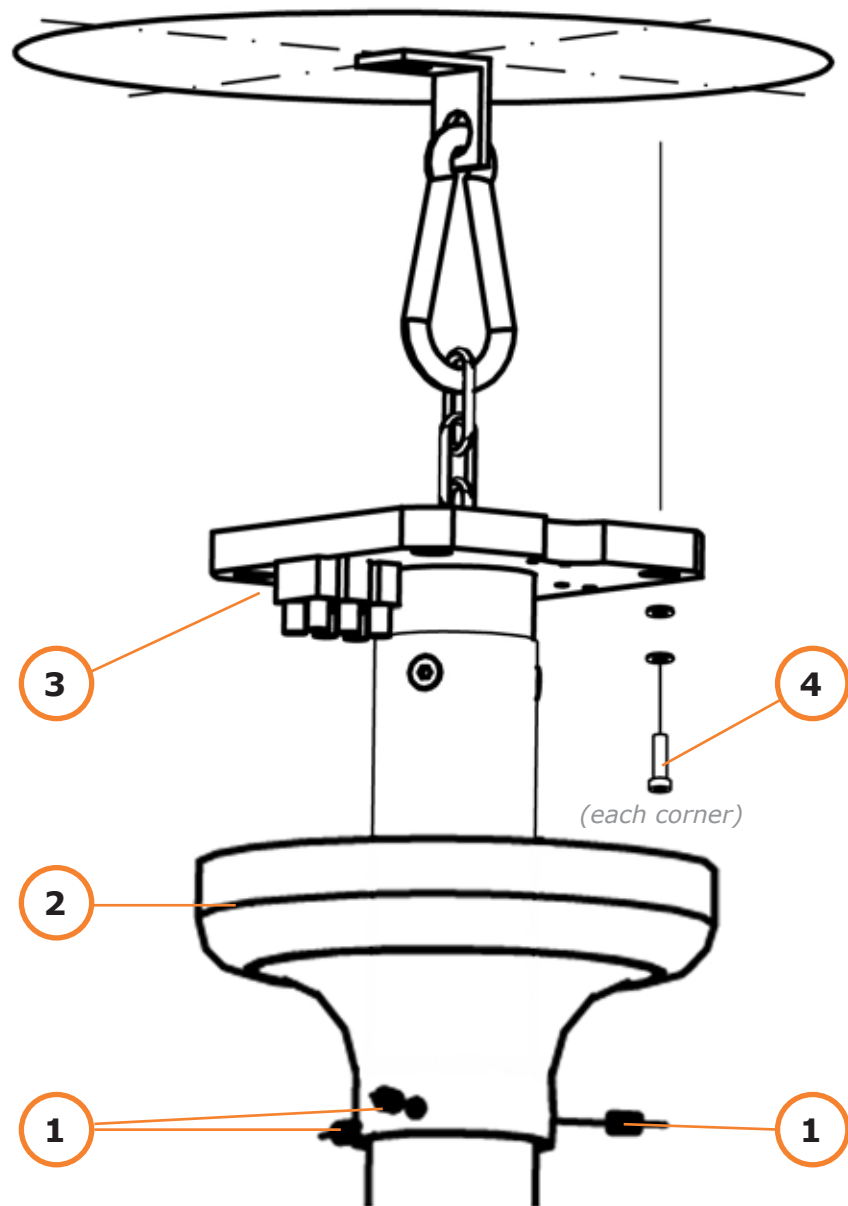
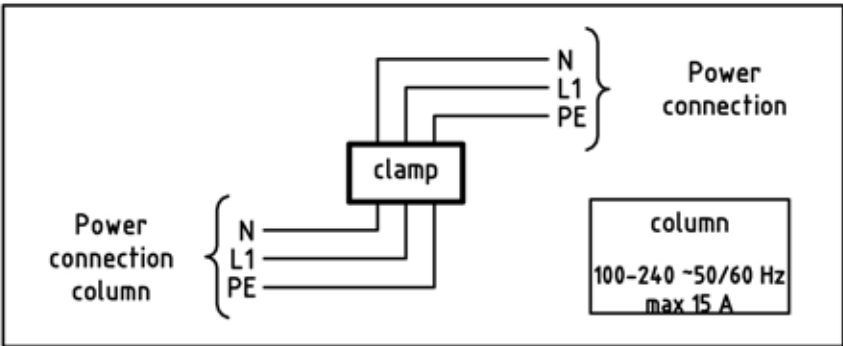

Fig. 15
Fig. 16
- 6.2.1 Loosen the three threaded pins (1/Fig. 15) of the canopy flange cover (2/Fig. 15).
- 6.2.3 Fix the ceiling column to the ceiling using the installation hardware (4/Fig. 15) specified by the structural engineer.
- 6.2.4 Ground the ceiling column with the screw marked with a grounding symbol (3/Fig. 15). Complete the electrical connection to the clamp according to Fig. 16, when electricity is needed.
- 6.2.6 Once the ceiling column is installed, carefully slide the canopy upward until it rests against the ceiling and secure it with the set screws (1/Fig. 15).